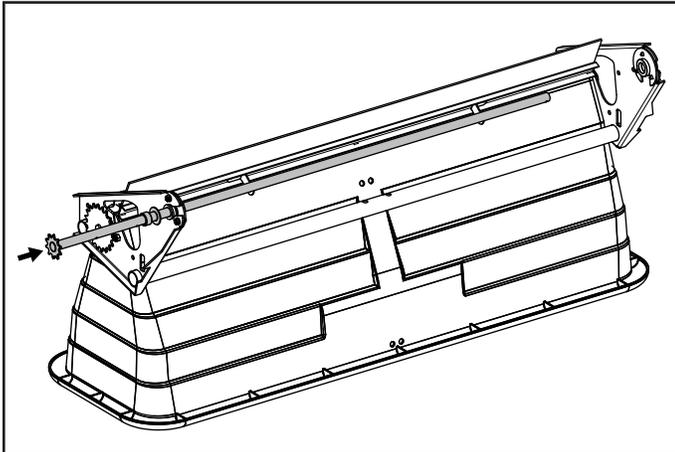

FIGURE 5
- Assemble the axle through the end of the spreader frame that contains a pre-assembled sprocket. See figure 5.